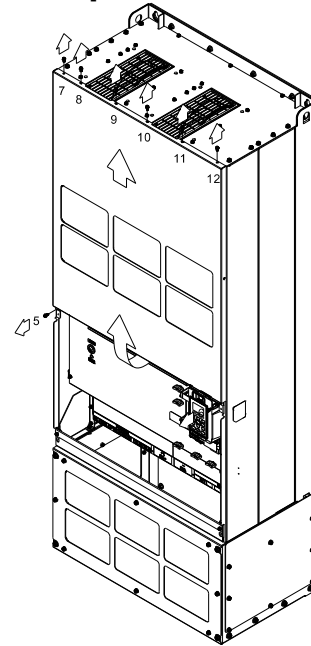

Figure 2
2. Loosen the screw 5–12 and remove the top cover (figure 2). Screw torque: 24–26 kg-cm / [20.8–22.6 lb-in] / [2.4–2.5 Nm]